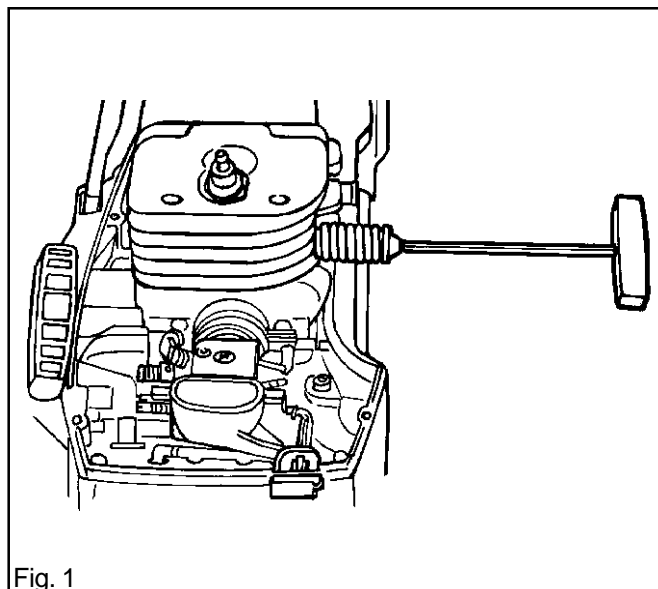

Fig. 1
2. Remove the spring on the cylinder with a 4 mm Allen key. See fig. 1.
1. Remove the springs on the cylinder with a 4 mm Allen key. See fig. 1.